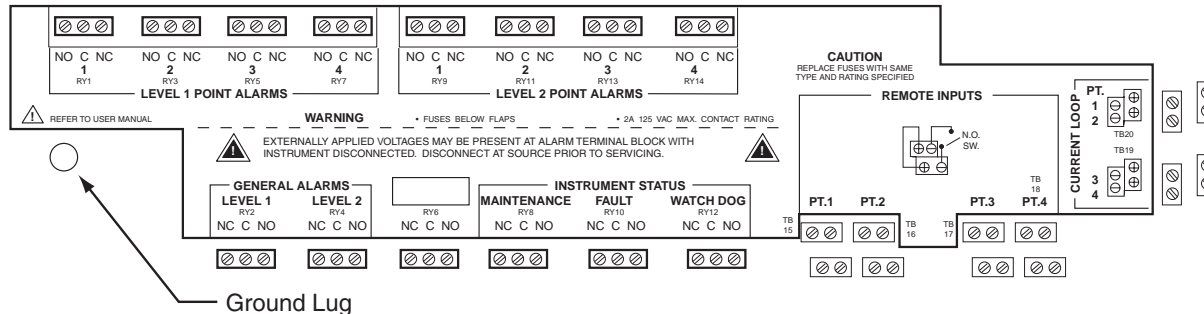

Figure 3-11: I/O Panel Connections
The terminal blocks for the relay contacts are located on the relay panel. See Figure 3-11. Relays include:
- Connect grounds to stud at lower left corner of the I/O panel. See Figure 3-11